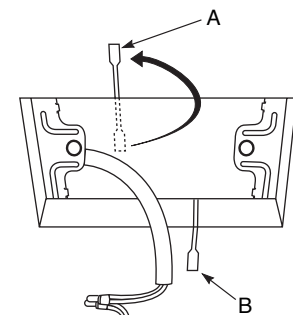

Fig. 7-20
- (4) Fit securely into the ceiling material at sections (A) and (B) as shown in Fig. 7-20.
- (5) Connect the wire (2-wire core) from the signal receiving unit with the wire from the indoor unit. (See section on how to wire the receiving unit.) as shown in Fig. 7-20.
- (6) Use the supplied spacers to adjust for a thickness several inches more than the ceiling material and lightly fasten the receiving unit in place with the small screws (M4 x 1-9/16 in., 2 pcs.) supplied with the unit.